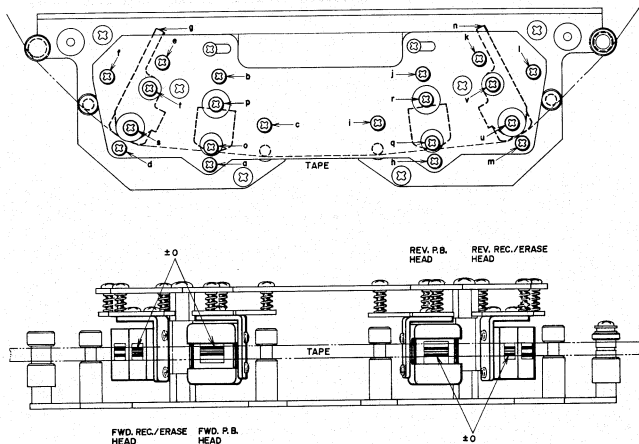

Fig. 13
#### 1) Playback Head (See Fig. 13)
a) At forward playback mode, adjust the height of the Fwd playback head by turning screws a, b shown in Fig. 13 until the upper edge of the tape and the lower edge of the left channel head core of the playback head are the same height.
b) At reverse playback mode, adjust the height of the Rev playback head by turning screws h, j shown in Fig. 13 until the lower edge of the tape and the lower edge of the right channel head core of the playback head are the same height.
a) At forward playback mode, adjust the height of the recording head by turning screws d, e shown in Fig. 13 until the upper edge of the tape and the upper edge of the left channel head core of the recording head is the same height.
b) At reverse playback mode, adjust the height of the Rev recording head by turning screws k, m shown in Fig. 13 until the lower edge of the tape and the lower edge of the right channel head core of the recording head are the same height.
- c) After the adjustments outlined above have been completed, loosen reverse recording head mounting screws u, v and move lever n (refer to Fig. 13) to left and right and adjust the gap side of the recording head so that when tension is applied to the supply reel side, the line output of both channels does not fluctuate. When a maximum allowable fluctuation of which  $+0.5/-0$  dB is attained, tighten screws u, v.